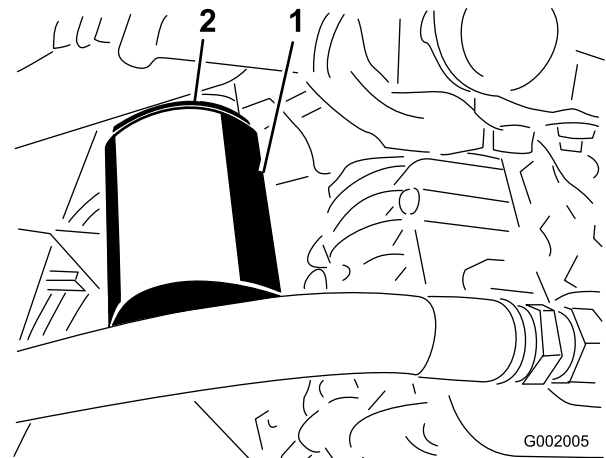

Figure 70
- Remove the filter (Figure 70).